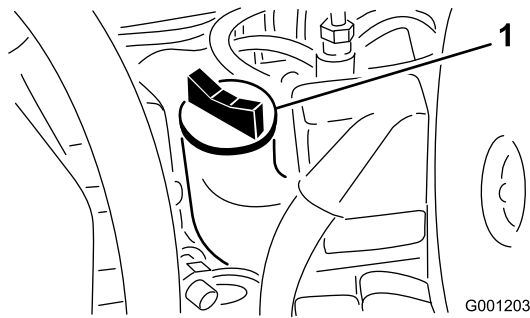

Figure 46
4. If the oil level is at or below the ADD mark on the dipstick, remove the oil-fill cap (Figure 46) and add oil to bring the oil level to the FULL mark on the dipstick.